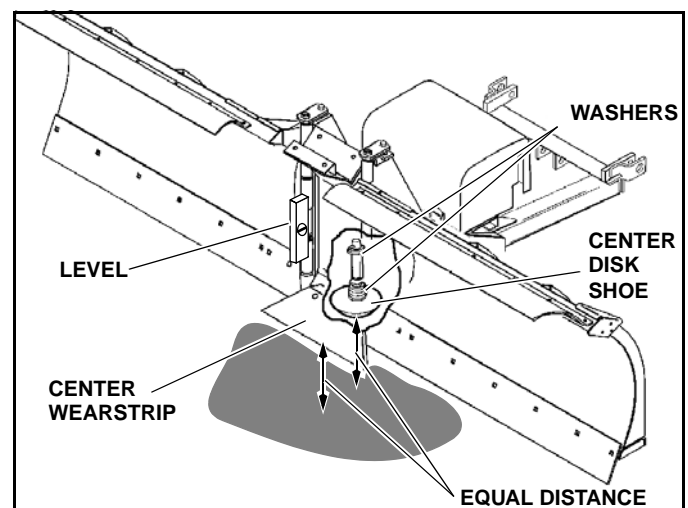

Figure 1-17
5. Determine whether the center disk shoe or the center wearstrip is off the ground and measure the amount that it is off the ground. (See Figure 1-17).